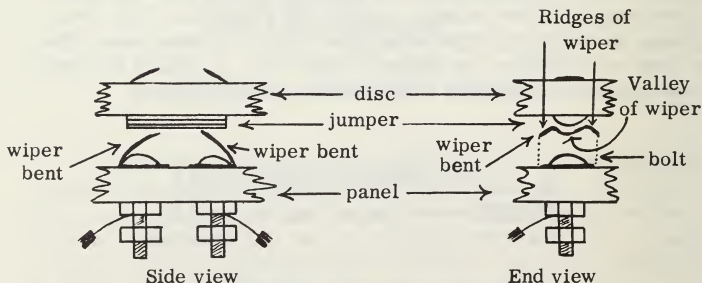

Figure 25 — Assembly of wipers
The way in which the wiper is assembled is shown in Figure 25, and is as follows: (1) thread the bolt through the wiper, with its ridges down; (2) fasten the bolt not too tightly to the panel; (3) align the wiper with the spoke (or radius) of the switch; (4) now fasten the bolt tightly; (5) bend the wiper gently upwards and over the bolt, with the ridges up, in such a way that the wiper will slide neatly on the jumper, resting in its valley between the ridges; (6) assemble the multiple switch with (probably three) washers in between the disc and the panel; (7) adjust the amount of bending the wipers so that they push up and down nicely against the jumpers as the switch turns.
In order for the switch to stay in a position to which it is turned, the body of the jumper must line up with the valleys between the ridges on the wipers, and these valleys must be in line with the spoke; then the jumpers will have a tendency to catch in the valleys, as they should, to hold the switch in position (see Figure 25, end view).